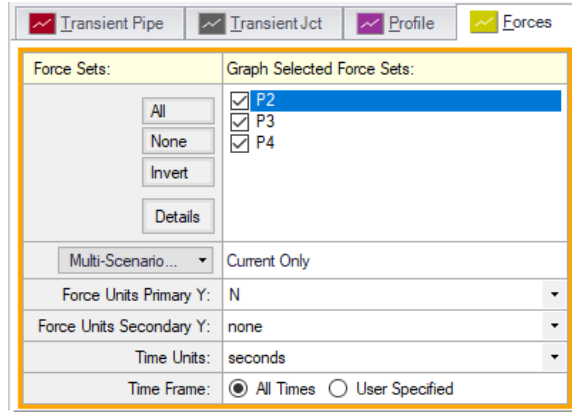

Figure 11: Graph parameters for force sets
1. Select the Forces tab on the Graph Control tab on the Quick Access Panel, as shown in Figure 11.